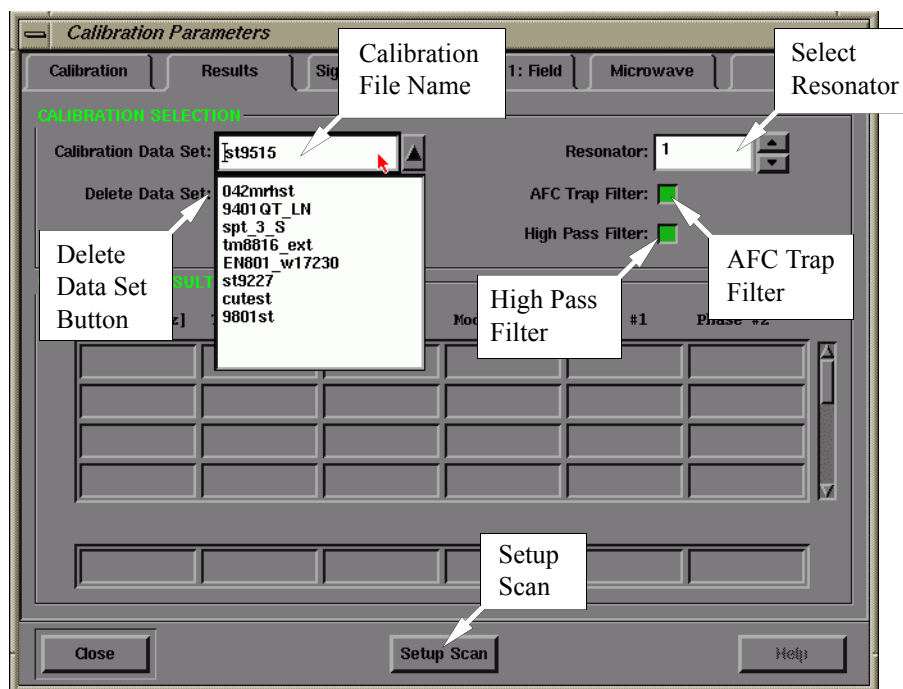

Figure 17-7 The Results folder of the Calibration Parameters dialog box.
8. **Enter the filename for the calibration file.** Click the **Results** tab. (See Figure 17-7.) The calibration file name usually consists of two to four letters that identify the type of cavity (ST for ER 4102ST or SHQE for ER 4122SHQE) followed by the serial number of the cavity. This number is found on the back or front of the cavity. For FlexLine series resonators the serial number is found at the top part of the module block. Enter the calibration file name into the **Calibration Data Set** box. If you are re-calibrating, you can click the file name in the drop down list of the **Calibration Data Set**. The new values will be appended to the calibration file or replace previous values in the file. If you want to start fresh, click the **Delete Data Set** button to delete the old calibration data.
9. **Select the resonator.** In almost all cases, the 1st Resonator should be selected. (See Figure 17-7.) The ER 4105DR dual cavity has two sets of modulation coils. By selecting 1st Resonator or 2nd Resonator, you are selecting the set of modulation coils that are to be calibrated.
10. **Turn on the AFC Trap and High Pass Filters.** The AFC trap filter blocks any signal components at the AFC modulation frequency that may contribute to noise in the EPR signal. The high pass filter suppresses low frequency signal components that also contribute to added noise in the EPR signal. These two filters influence the calibration values of the signal channel. By default they are both selected. (See Figure 17-7.) Only under very rare circumstances would you acquire spectra without these filters.
11. **Start the Setup Scan.** When the Setup Scan function is activated, the magnetic field is swept rapidly (up to 50 Gauss at about a 30 Hz rate) to provide a “real time” display of the EPR spectrum on the screen. Click the Setup Scan button in the Results folder. (See Figure 17-7.)